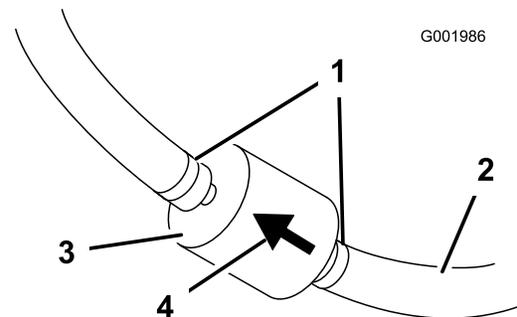

Figure 44
5. Squeeze the ends of the hose clamps together and slide them away from the filter (Figure 44).